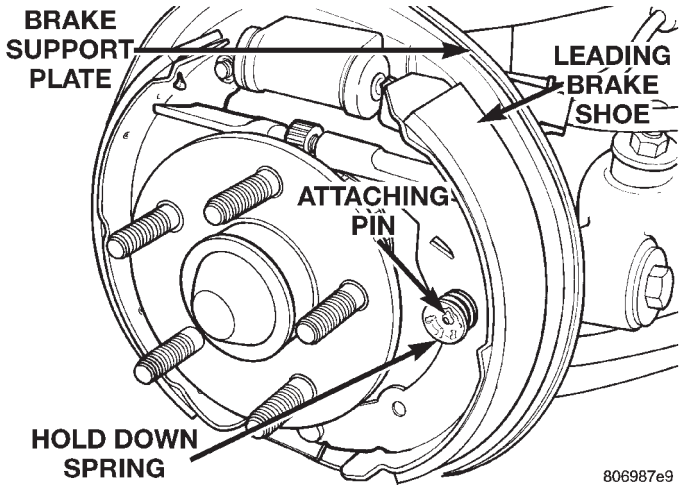

Fig. 63 Hold Down Spring And Pin
(7) Remove the hold down spring and attaching pin (Fig. 63) from the leading brake shoe.
(7) Install the leading brake shoe on the brake support plate. Then install the attaching pin and hold down spring for the leading brake shoe (Fig. 63).